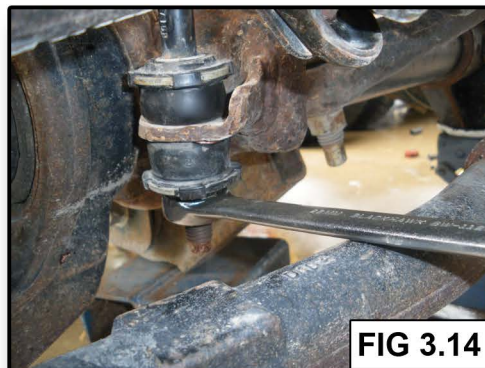

FIG 3.14
14. Reconnect sway bar links and torque fasteners (FIG 3.14)